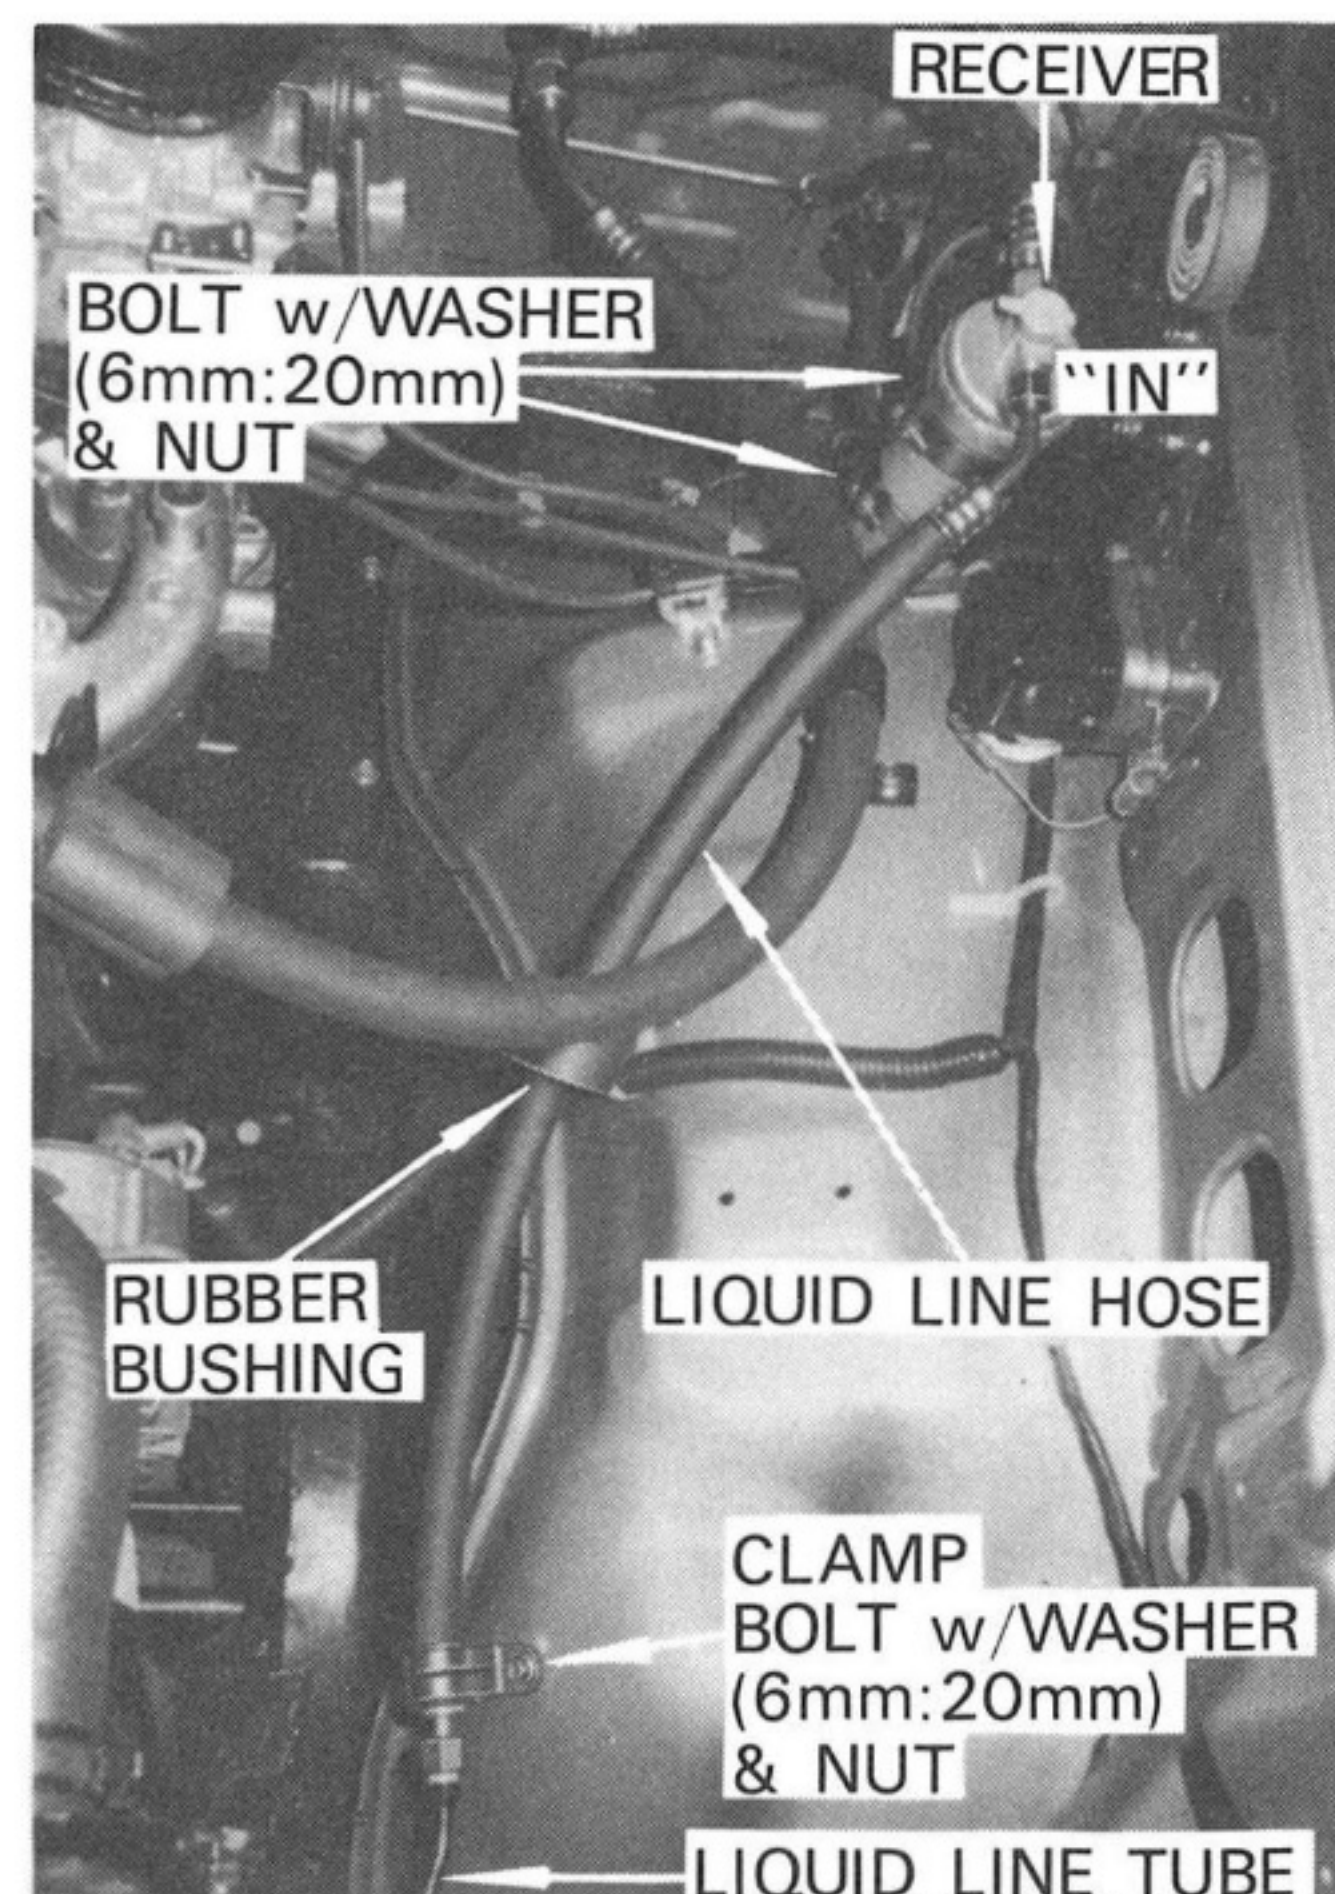

Fig. 29
- D) Drille 7 mm diameter hole on the tire apron according to the dimension in Fig. 29.